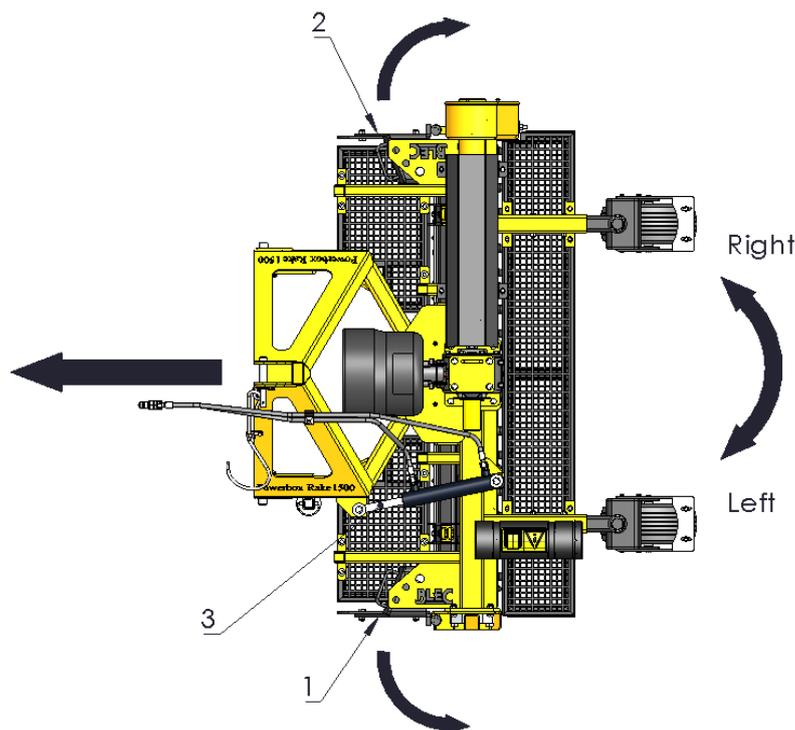

Figure 6
2. Rotate the rotor by operating the hydraulic cylinder **(3)** (Figure 6) so that the material is moved to side.
When the material has to be moved to the right side, turn the rotor to the left and place side plate **(1)** maximum turned to the outside (Figure 6). Fix the side plate by using the lock pin and secure with the R-clip.
When the material has to be moved to the left side, turn the rotor to the right and place side plate **(2)** maximum turned to the outside (Figure 6). Fix the side plate by using the lock pin and secure with the R-clip.